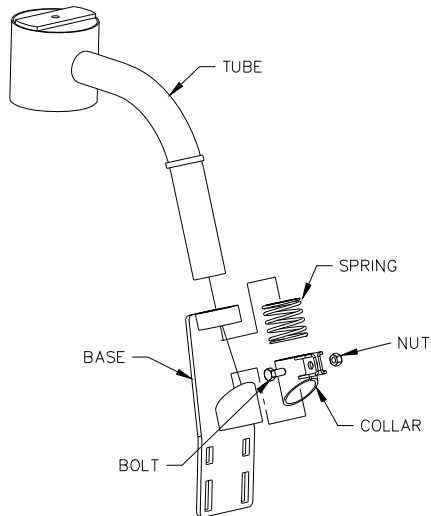
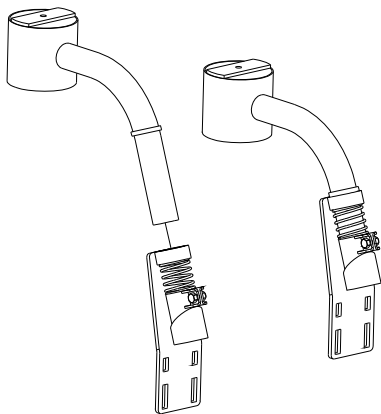

Figure 6: Breakaway Sensor Bracket Exploded View
Figure 7: Breakaway Sensor Mounting Bracket Assembly
1. Assemble the Breakaway Sensor Mounting Brackets (**B13**) as show in **Figure 6** and **Figure 7**.